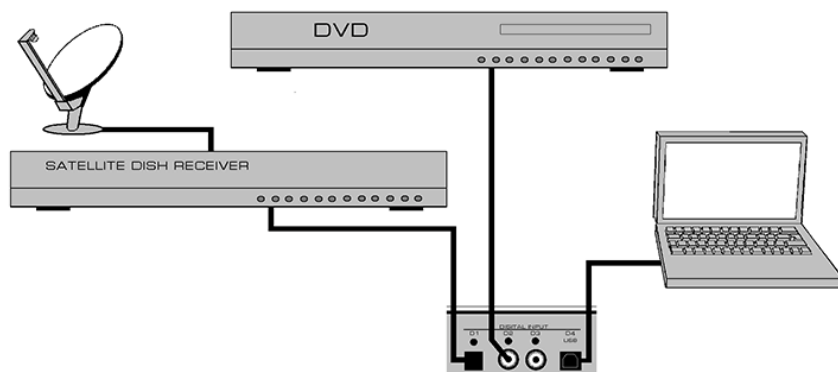

Figure 2: Nêo 340i Optional Digital Inputs – connection examples
There are two (2) different settings available for setting the resistive load; 100 $\Omega$  and 47k $\Omega$  which are represented by jumper sockets R12 for the left channel and jumper socket R29 for the right channel (refer to figure 2 – section labeled "LOADING"). The factory default setting is 47k $\Omega$ , therefore both jumpers will be found in each of the two left most sockets.
There are two (2) different settings available for the capacitive load; 0pF and 100pF which are represented by jumper sockets C9 for the left channel and jumper sockets C17 for the right channel (refer to figure 2 – section labeled "LOADING"). The factory default setting is 100pF for a moving magnet cartridge, therefore both jumpers will be found in each of the two right most sockets.
There are two (2) different settings available for gain level. They are 40dB for MM cartridges and 60dB for MC cartridges, which are represented by jumper socket J18 for the left channel and jumper socket J24 for the right channel (refer to figure 2 – section labeled "GAIN"). The factory default setting is for a MM cartridge, therefore both jumpers will be found in each of the two right most sockets labeled MM; ***It is highly recommended that you do not use the jumpers labeled MC for an MM cartridge as this will overload the 340i.*** When using a MC cartridge, you should insert the supplied jumpers into each of the two left-most sockets labeled MC.
The rear panel will look similar to Figure 2 (above). There are four (4) pairs of single-ended analog inputs on RCA connectors labeled CD, A1, A2 and A3/P. The RCA input and output connectors on the rear panel have been color coded: 'white' for the left channel and 'red' for the right channel. If your **Nêo 340i** is equipped with the *optional phono section*, the input labeled 'A3/P' must be used to connect your turntable interconnect leads to this integrated amplifier. If you don't have the optional phono section installed, then this input can be used in the same way as the CD, A1 and A2 inputs.